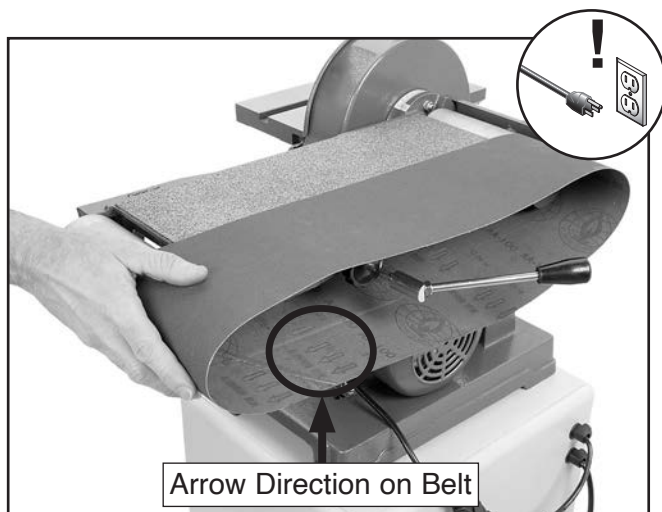

Figure 72. Installing new sanding belt.
5. Install a new sanding belt onto the idler and drive rollers, making sure the arrows on the bottom of the belt face the front of the sander, as shown in **Figure 72**.